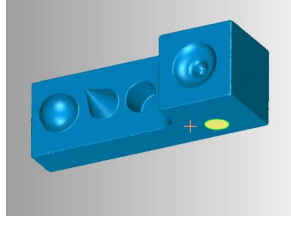

Figure 55
1. **Rotate** the view to the side of the part with the open boundary hole, see **Figure 55**.